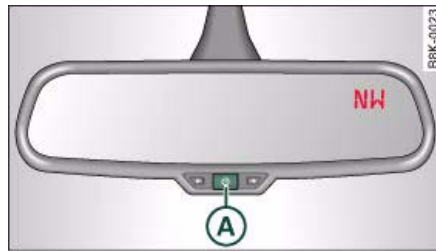

Fig. 69 Interior mirror: activated digital compass
- To switch the compass on and off, press and hold button **A** until the compass display in the mirror ⇒ fig. 69 appears or disappears.
- Press and hold button **A** ⇒ fig. 69 until the currently set zone number is displayed on the interior mirror.